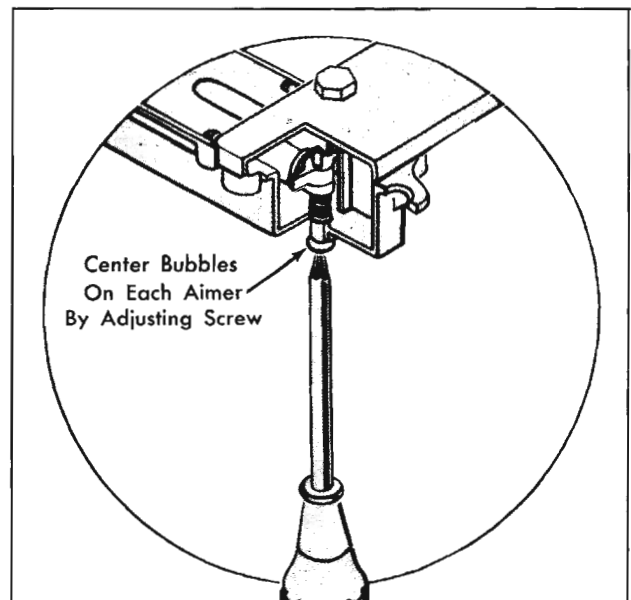

Fig. 14-71 Adjusting Aimer
3. Without moving the car, recalibrate aimers by turning the adjusting screw until bubble is centered. (Fig. 14-71)
2. If the bubble is not centered, adjust the screw on the bottom of the aimer, Fig. 14-71, until the bubble is centered. The aimer is now calibrated vertically.